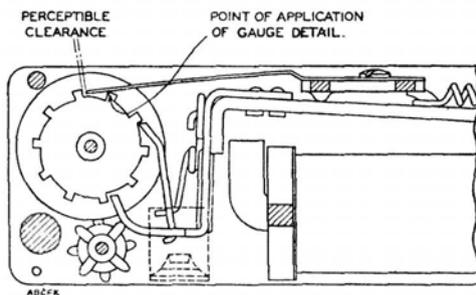

FIG. 7.—ADJUSTMENT OF DETENT SPRING
**9. Detent spring.**—Adjust the detent spring so that, when the armature is normal, there is just perceptible clearance between the tip of the detent spring and the face of the ratchet tooth, on all teeth of the ratchet wheel (as shown in Fig. 7). The pressure exerted by the detent spring on the forward ratchet tooth must be  $10 \pm 5$  gm., measured as near to the point of contact as possible (see Fig. 7). (Verify by examination that the detent spring does not bind on either the frame or the "units" number wheel, when the "units" wheel is pressed lightly to the right.)